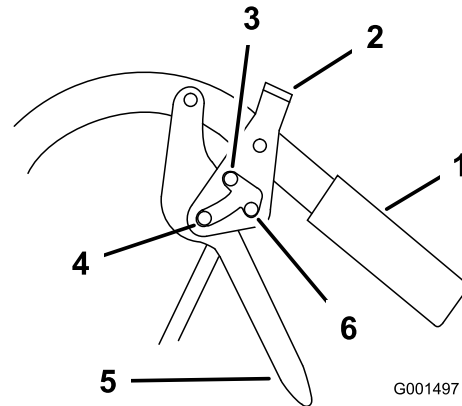

Figure 6
1. Squeeze the drive levers (Figure 6).
2. Place your thumbs on the upper part of the locks and move them forward in into the **park** position (Figure 6).
2. Place your thumbs on the upper part of the locks and move them rearward until they are in the **drive** position (Figure 6).
2. Place your thumbs on the upper part of the locks and move them rearward into the **neutral lock** position (Figure 6).
2. Place your thumbs on the upper part of the locks and move them forward until they are in the **drive** position (Figure 6).